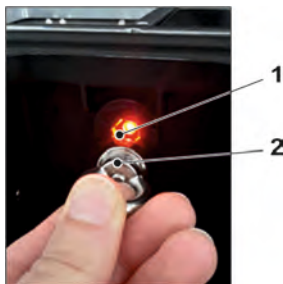

Fig. 31-1 Waking up the NivuFlow Mobile
- ➡ “Waking up” NivuFlow Mobile: hold the accompanying magnet (solenoid, Fig. 31-1 no. 2) to the reed contact (Fig. 31-1 no. 1; on front side of NFM) until the LED is lit.